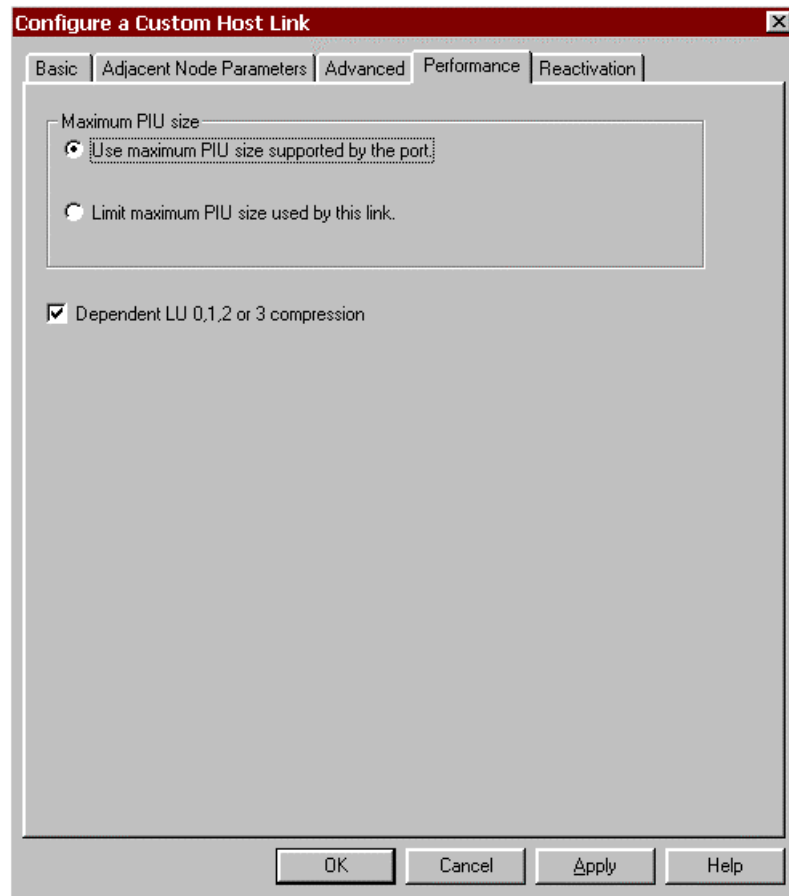

Figure 11-17. Configure a Custom Host Link - Performance
6. Click the **Performance** tab (Figure 11-17).